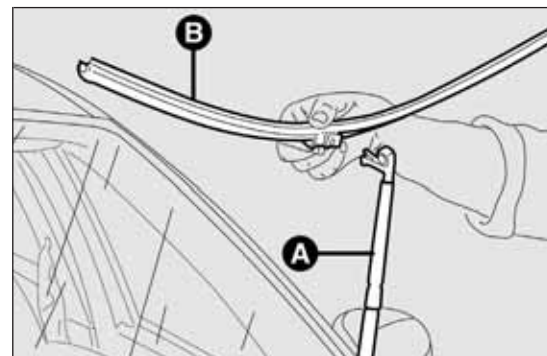

fig. 241
- ☐ raise the windscreen wiper arm A fig. 241 and position the blade so that it forms an angle of 90° with the arm;